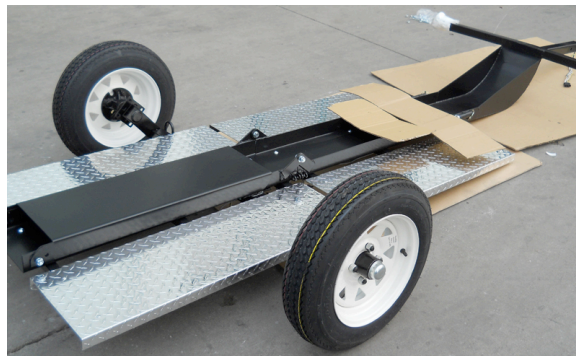

Figure 6-1
1. Take off the trailer from the crate, and then open the Rear Frame (Part# A6). See figure 6-1.